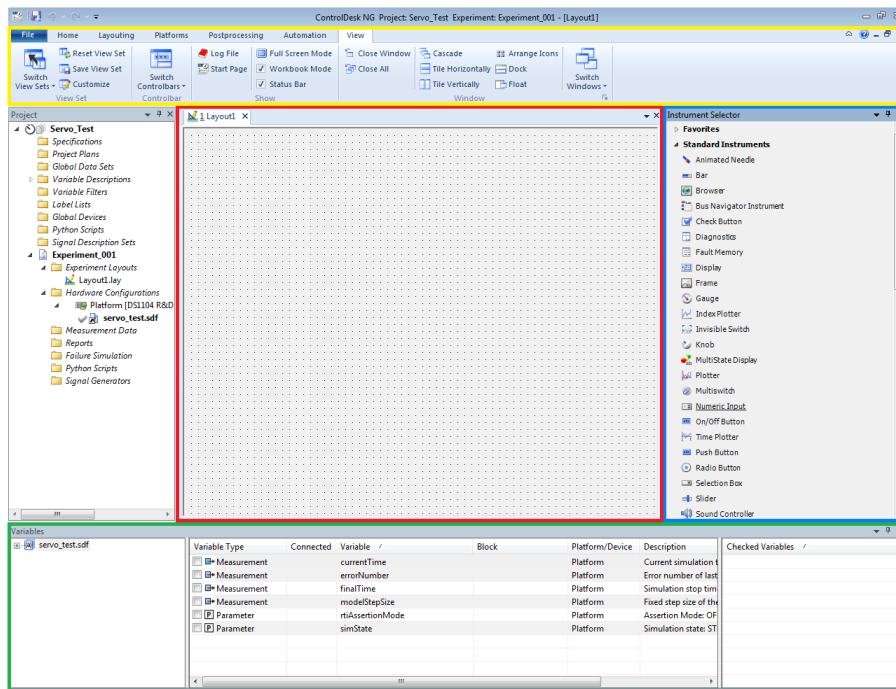

Figure 45: ControlDesk window
- The software offers a variety of tools and options. The ones of interest are highlighted with colors in figure 45, are described below: